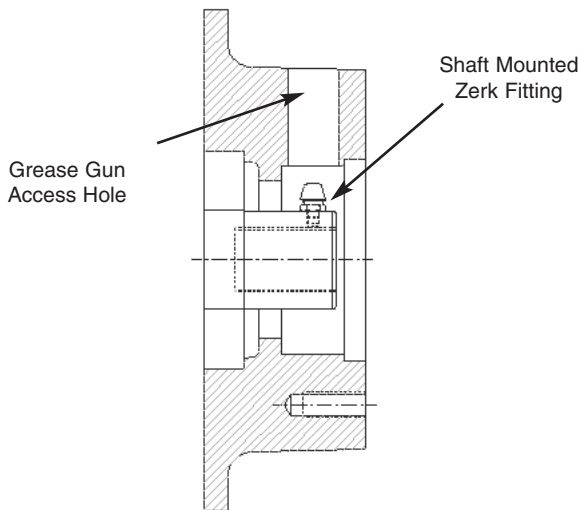

Figure 3--Drive End Bearing Bracket
2. Turn the rotor assembly so that the Zerk fitting is in line with the access hole in the top of the drive end bearing bracket as illustrated in Figure 3.
3. Using a hand held grease gun with a solid coupling, apply a small amount of grease into the fitting. DO NOT OVER GREASE. Limit the amount of grease to one (1) trigger pull of the grease gun.